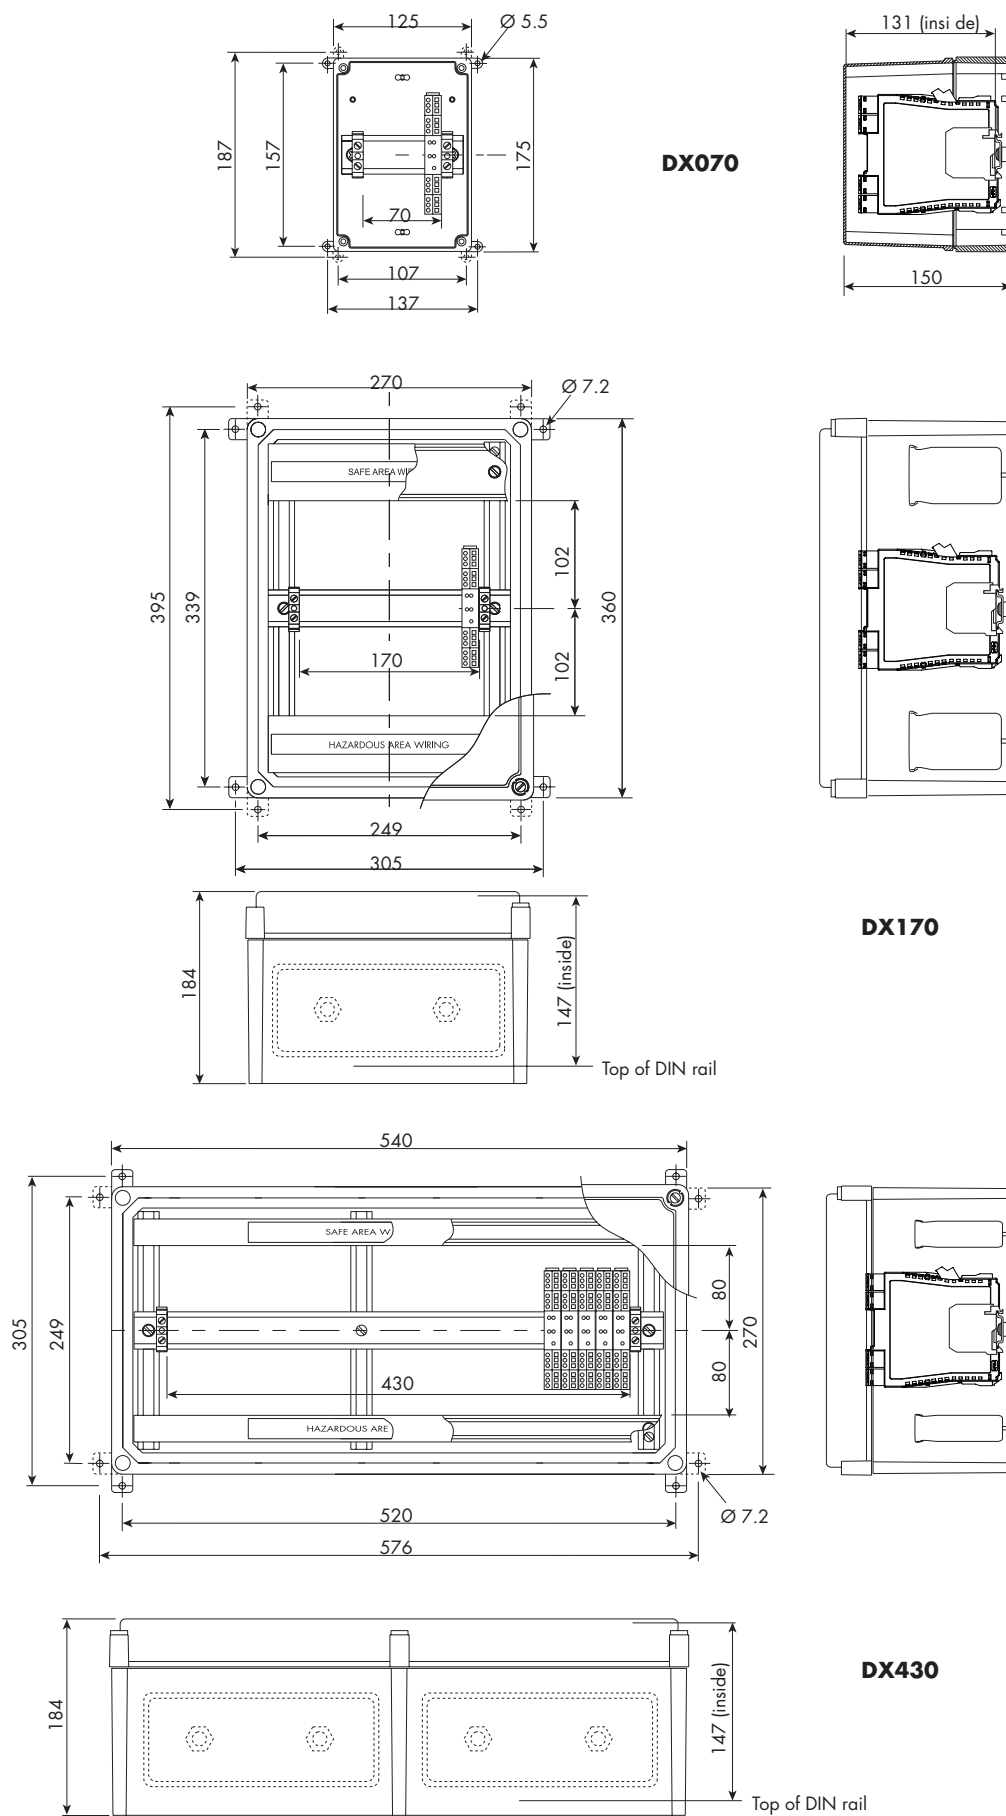

Figure 5.2: MTL's DX range of enclosures
Enclosures are usually selected on the basis of the number of units they will accommodate and Table 5.1 shows the capacity of each of the enclosures. Figure 5.2 shows each type of enclosure containing MTL5500 modules.
See Figure 5.2 for the dimensions and mounting hole distances, etc., of the three DX enclosures. The recommended method of mounting-described here-uses the four wall-mounting lugs supplied with each enclosure. An alternative method of mounting is by direct attachment to the mounting surface through the corner holes.
- b) Each lug can be used in one of two positions as shown in Figure 5.2.
- e) Appropriate fixing hole distances are shown in Figures 5.2.
The DX170 can accommodate one gland plate on each side - see figure 5.2 for details. Table 5.6 lists suppliers of suitable gland plate kits and Table 5.7 lists recommended glands.
The DX430 can accommodate two gland plates on each side - see figure 5.2 for details. Table 5.6 lists suppliers of suitable gland plate kits and Table 5.7 lists recommended glands.